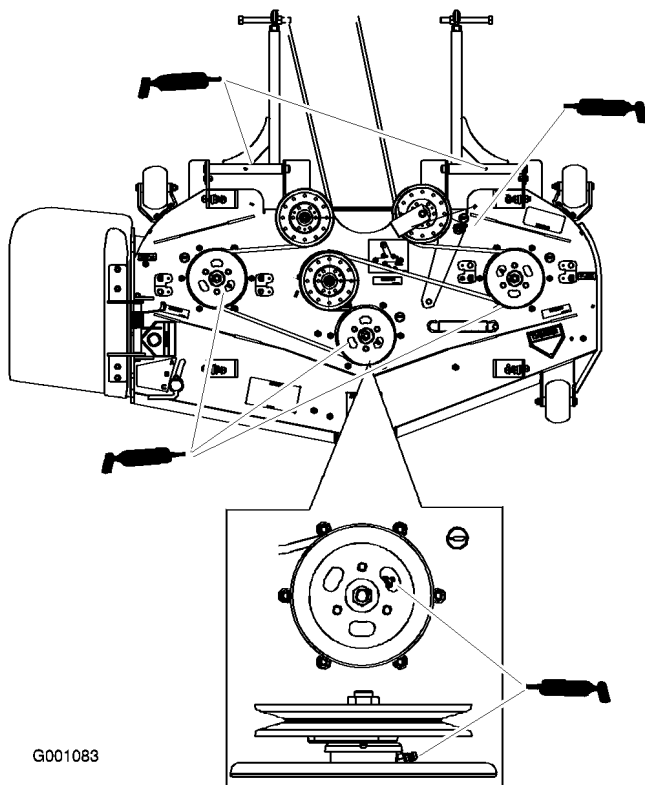

Figure 30
4. Grease the three spindle bearings under the pulleys until grease comes out the lower seals (Figure 30).
5. Grease the idler arm on the mower deck (Figure 30).
6. Grease the fittings on the push arms (Figure 30).